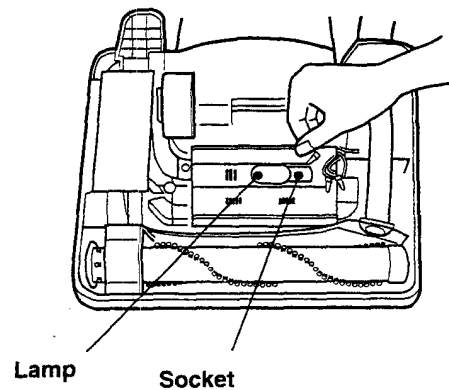

Fig. 23
- 2 Note the arrangement of the lead wires and then carefully lift out the headlight assembly. (Fig. 23)